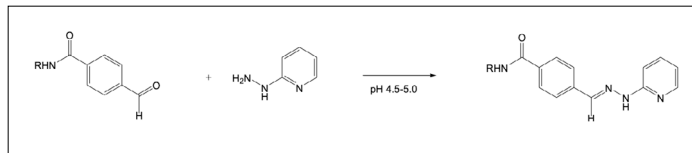

Figure 2: Colorimetric reaction used to quantify the number of 4FB linkers on a biomolecule.
- The molar substitution ratio (MSR) can be determined using a colorimetric reaction outlined in Figure 2. Addition of 2-hydrazinopyridine to a 4FB-modified biomolecule yields a bis-aryl hydrazone that absorbs at 350 nm. Refer to the 4FB-Protein MSR Calculator or the 4FB-Oligonucleotide MSR Calculator as well as the protocol that is appropriate for your lab equipment: 4FB Oligo MSR Instructions or 4FB Protein MSR Instructions.